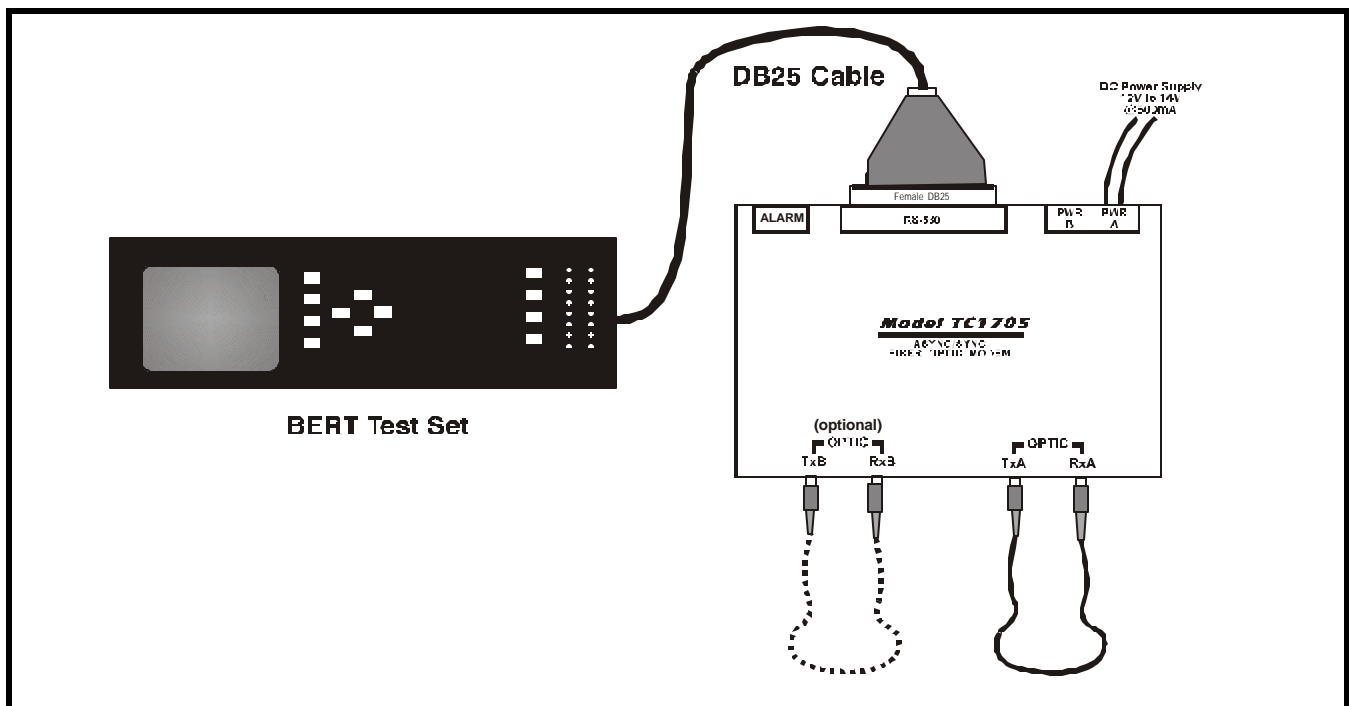

Figure 10. Local Optic Loopback Test Connection Diagram
1. Set up the bench test as illustrated in Figure 10 on the following page.